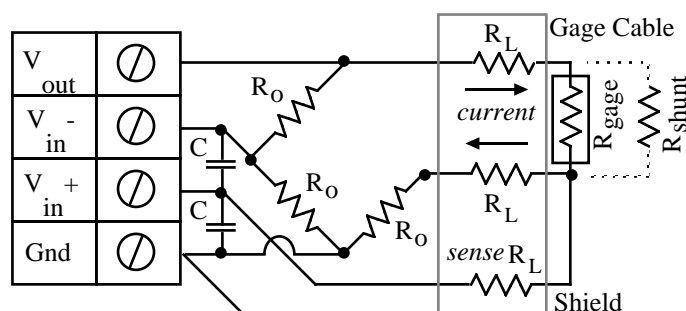

Fig 3.7 - Strain Measurement - Quarter Bridge Circuit
voltage for the bridge is supplied by either the instruNet Vout terminal or by an external voltage source. In figure 3.7, R_{gage} is a strain gage, R_O is either a fixed resistor of known value or a fixed unstrained strain gage of value R_O, and R_L is the lead wire resistance. instruNet calculates the value of the strain, returning "strain" engineering units, using the equations:
10. Wire your voltage source per figure 3.7, and refer to the steps at the beginning of this chapter for more information on how to set up your sensor.^{5,10}